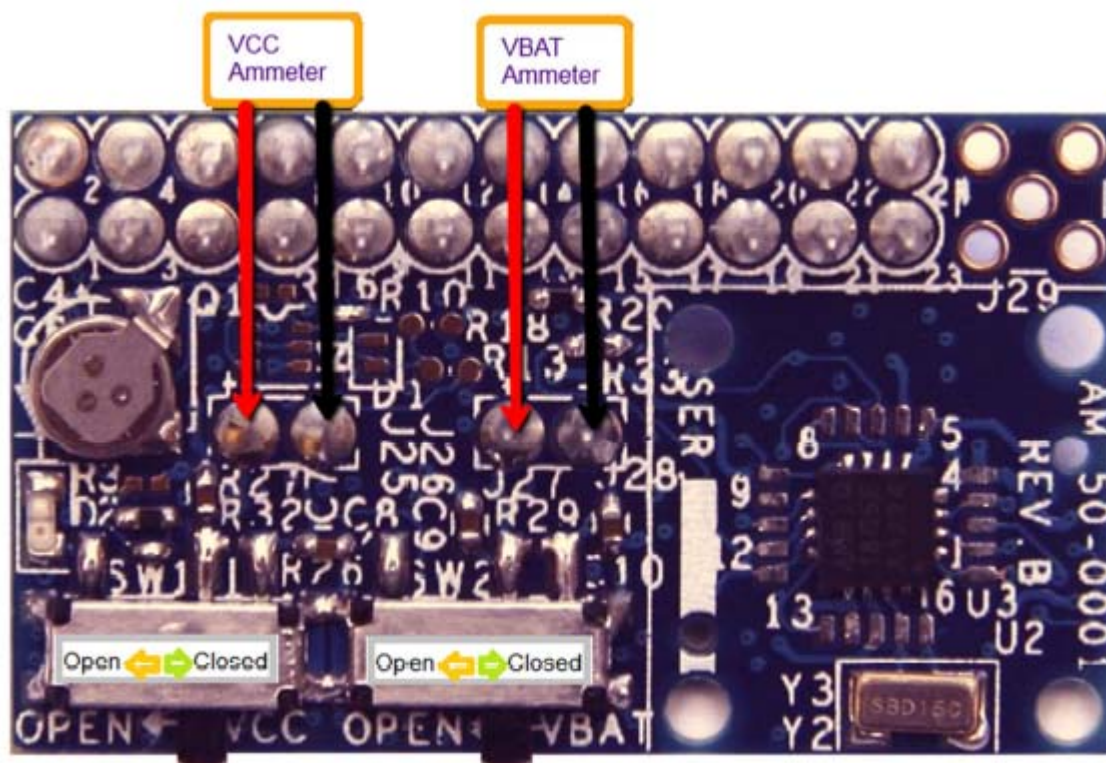

Figure 8. VCC and VBAT Current Measurement
SW1 and SW2 are placed in the “open” position by sliding the switch lever to the left side as shown in Figure 8. They are placed in the “closed” position by sliding the switch lever to the right side.
2. Connect an ammeter in series with the VCC pin on the AB18X5 part. This is done most easily by first connecting an ammeter between the VCC current measurement pins (see Figure 8). Power on the ammeter and set it to a range setting capable of measuring mA or tens of mA. To measure positive current, the ammeter polarity should be connected following the VCC Current Measurement polarity markers (+/-) shown in Figure 2. Once the ammeter is connected, change the position of SW1 to the open position (see Figure 8).